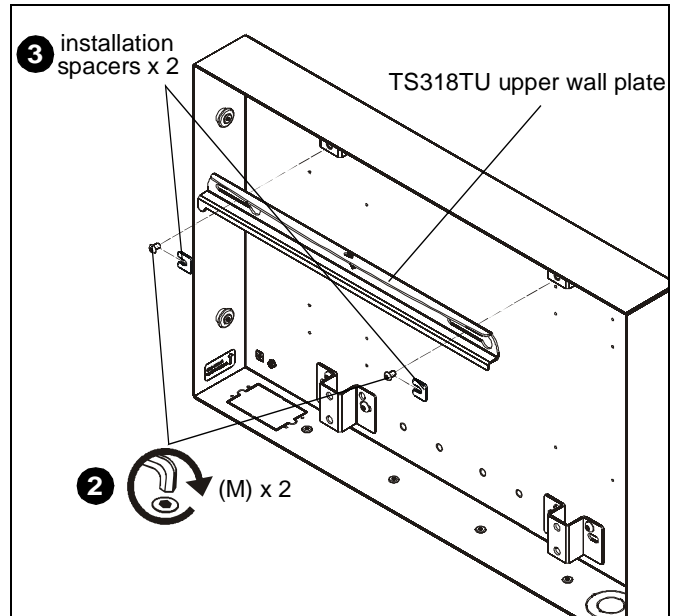
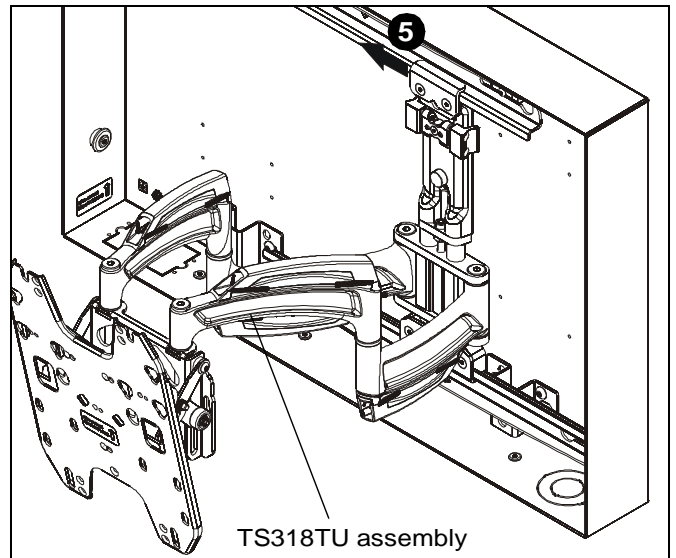

Figure 8
Figure 9
2. Use two 5/16-18 x 1/2" button head cap screws (M) to loosely attach upper wall plate of TS318TU to upper attachment brackets (N). (See Figure 8)
3. Place two installation spacers (included with TS318TU) over two 5/16-18 x 1/2" button head cap screws (M). (See Figure 8)
4. Tighten two screws (M) to secure upper wall plate to upper attachment brackets.
5. Slide TS318TU assembly onto upper wall plate of TS318TU. (See Figure 9)